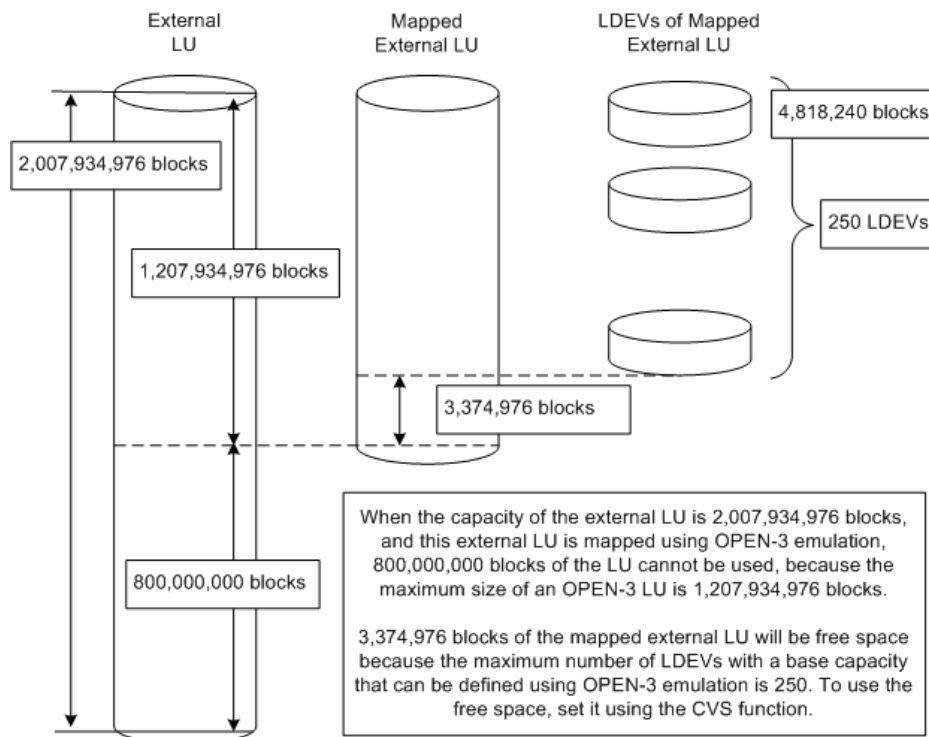

Figure 434 Calculating LU capacity (OPEN-3 example)
When you map an external LU as a local disk array internal XP LDEV, you must specify the XP12000 emulation type for the mapped LU. Figure 434 shows how to calculate the LU capacity for an OPEN-3 emulation. For Open Systems, the most used emulation type is expected to be Open-V.
- Maximum capacity for external LUs (1,207,934,976 blocks in our OPEN-3 example). When the capacity of the mapped external LU is greater than the defined maximum for the specified emulation type (Figure 434), part of the LU space cannot be used in the external LU.
- Base LDEV capacity (4,818,240 in our OPEN-3 example). When the capacity of the external LU is less than the base capacity of the specified emulation type, a Customized Volume (CV) is created when you map the volume. When the capacity of the external LU is more than base capacity of the specified XP12000 emulation type, the external LU is divided into multiple LDEVs, each having the base capacity. However, with OPEN-V emulation there is no concept of base LDEV capacity.